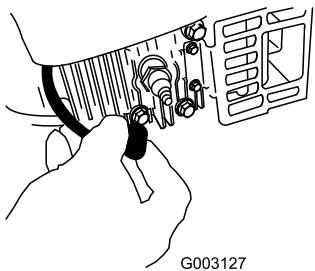

Figure 43
- Disconnect the spark plug wire from the spark plug (Figure 43) before performing any maintenance procedure.